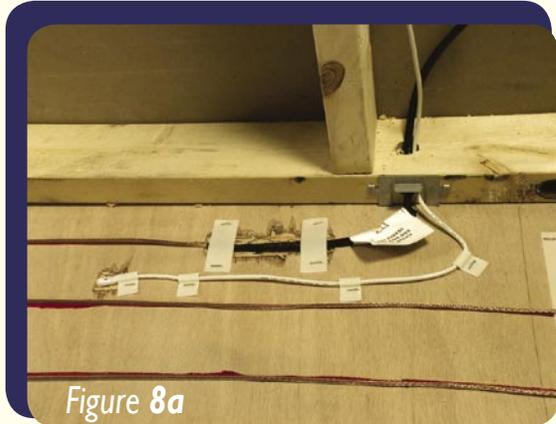

Figure 8a
- Due to the slightly larger diameter of the *Tail Splice* and the bulb of the sensor wire, remove approximately 1/4" of sub-floor material below the splice connection and sensor bulb and secure with *Ribbon Strapping* and/or plastic clips in the same manner described in Step 5 for the *Cold Lead Splice*. Remove all debris after this step to avoid cable damage (**Figure 8a and 8b**).